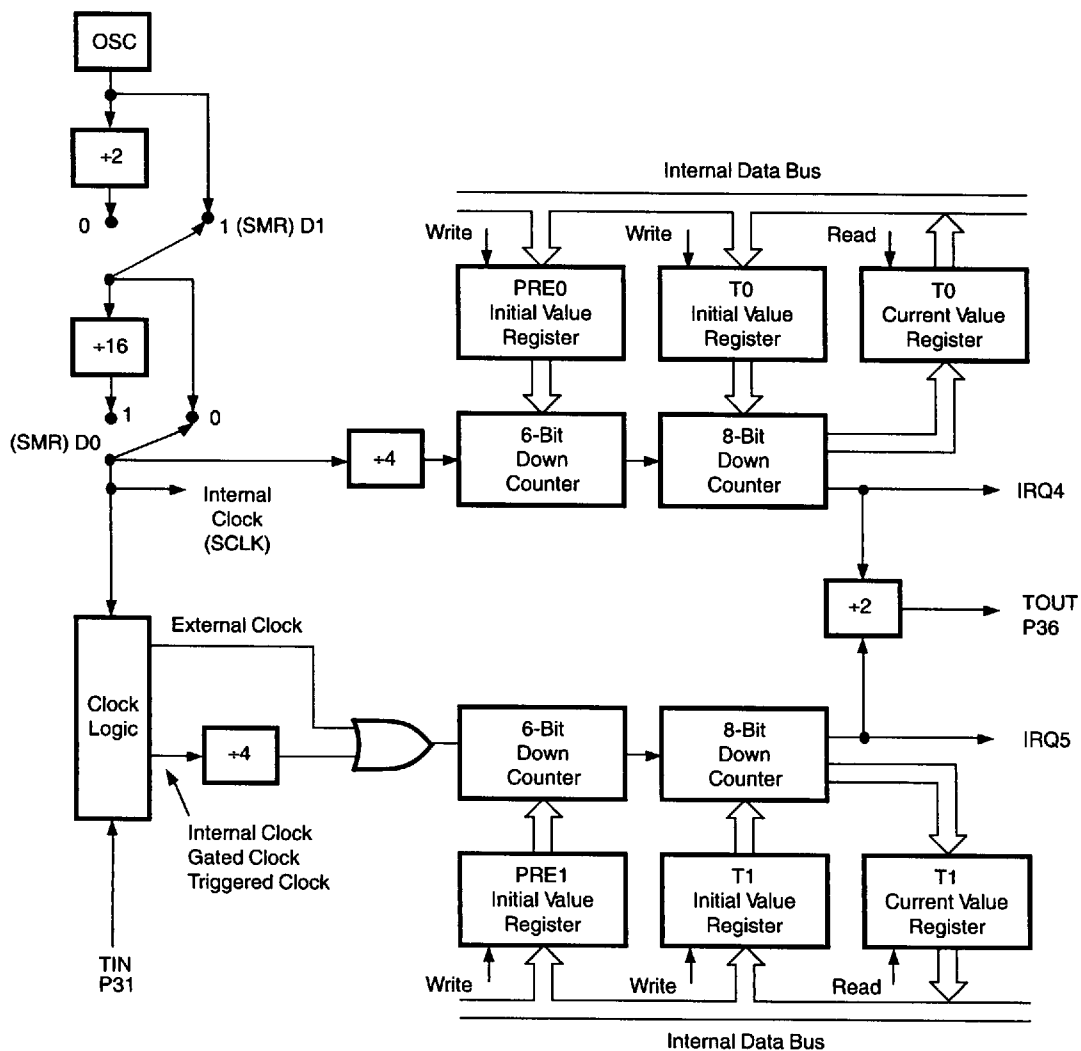

Figure 14. Counter/Timer Block Diagram
**Counter/Timers.** There are two 8-bit programmable counter/timers (T0-T1), each driven by its own 6-bit programmable prescaler. The T1 prescaler can be driven by internal or external clock sources, however, the T0 prescaler is driven by the internal clock only (Figure 14).
**Clock.** The Z87100 derives its timing from an on-board RC oscillator referenced as RC or an external clock source applied to the time base counter input referenced as TMBASE. The RC clock source is made of an internal oscillator and an external resistor and an optional external capacitor (See Figure 14).